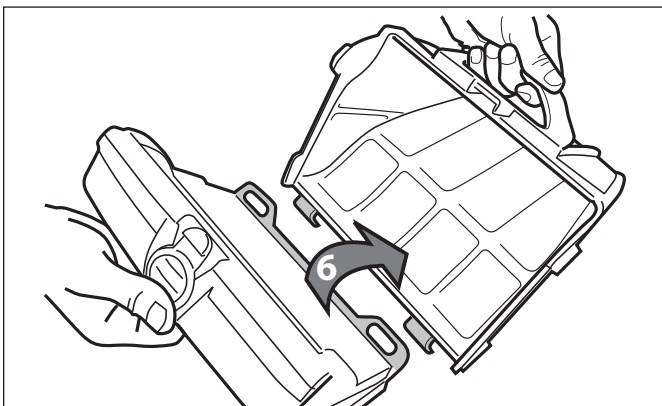

Figure 26. Remove Filter Canister
- Separate the filter canister from the filter support (6), as shown in Figure 26.